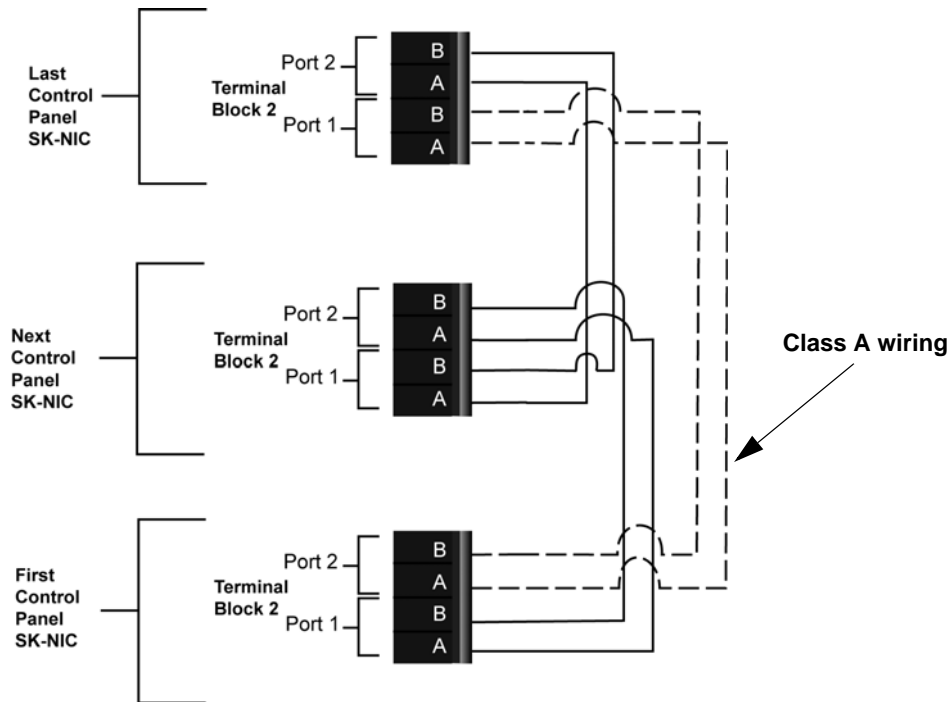
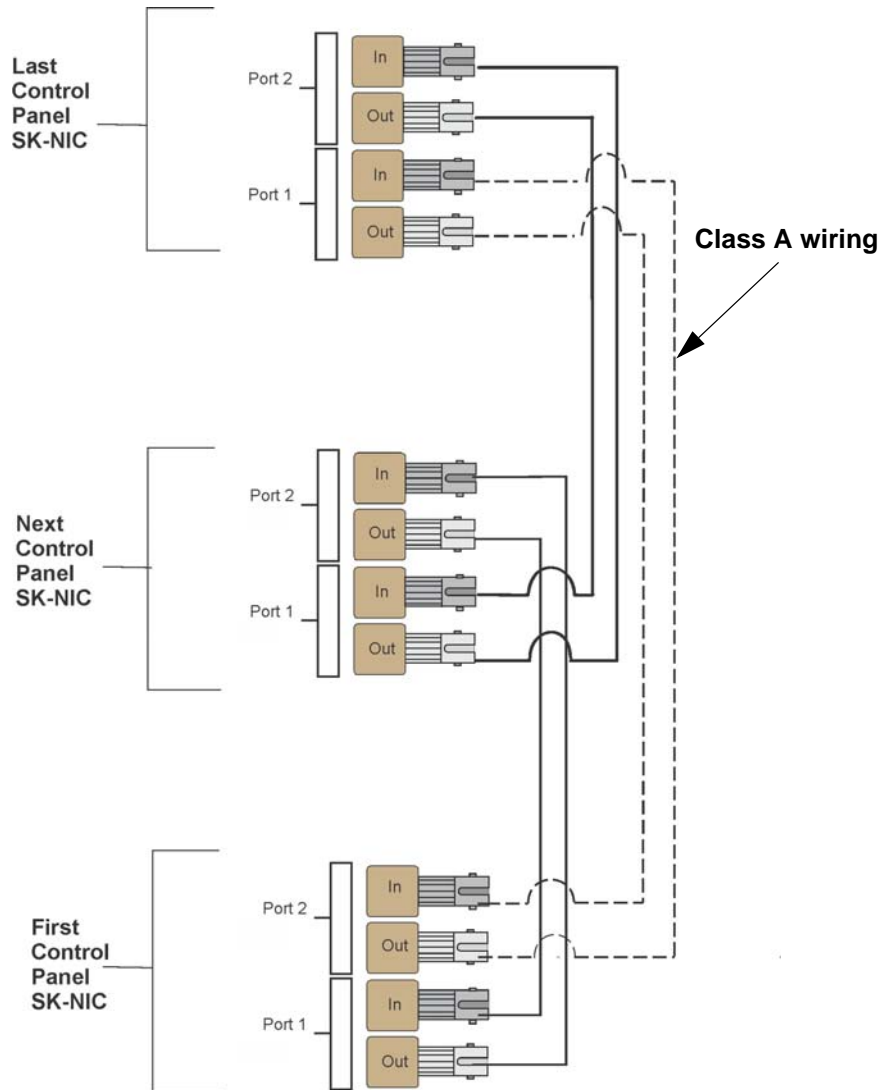
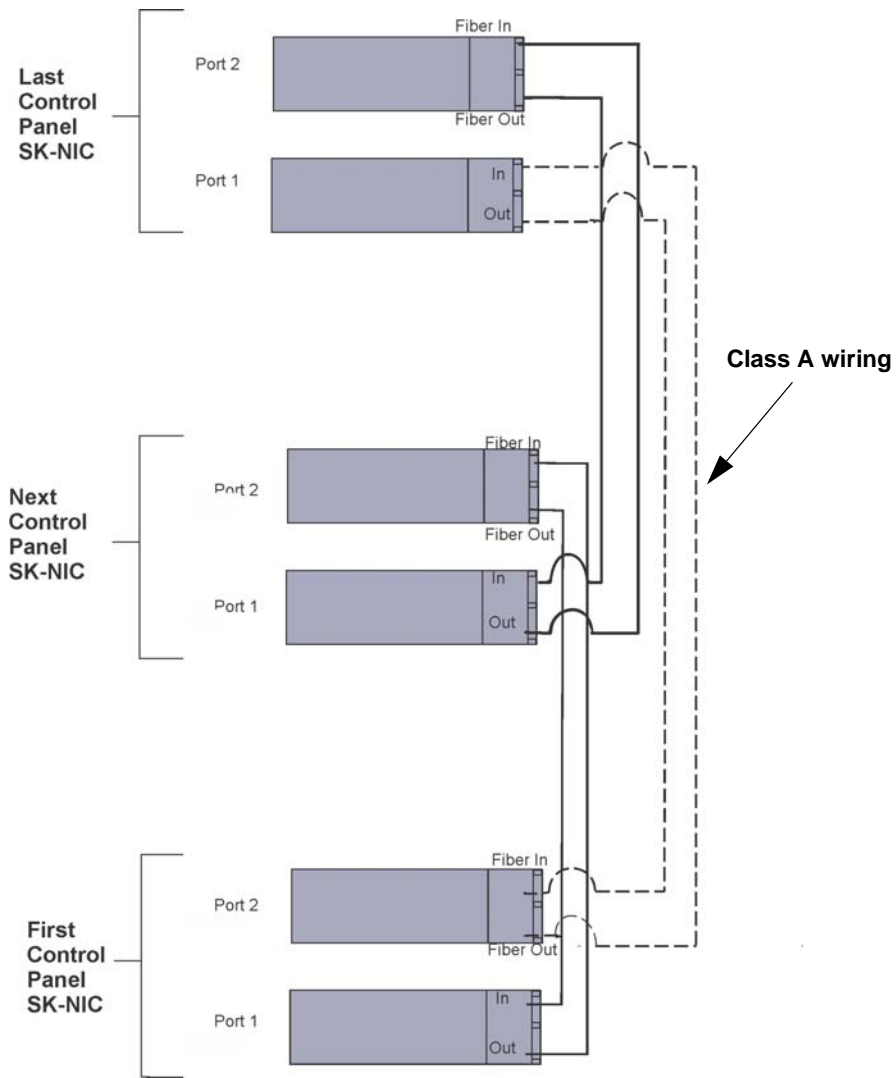

Figure 5-7 Twisted Pair Wiring Configuration
Figure 5-8 Fiber Optic Wiring Example
Figure 5-9 Fiber Optic Wiring Single-Mode Example
- Based on the type of data medium chosen, run the twisted pair wiring/fiber optic cable to the next SK-NIC using a class B or class A wiring method. A combination of both medium types can be used. See Figure 5-7, Figure 5-8, Figure 5-9, and Figure 5-10 for SK-NIC wiring examples.
Unshielded twisted pair wiring between multiple panels is shown in Figure 5-7. Class A wiring is shown with a dotted line.
Fiber optic cable between multiple panels is shown in Figure 5-8. Class A is shown with a dotted line.